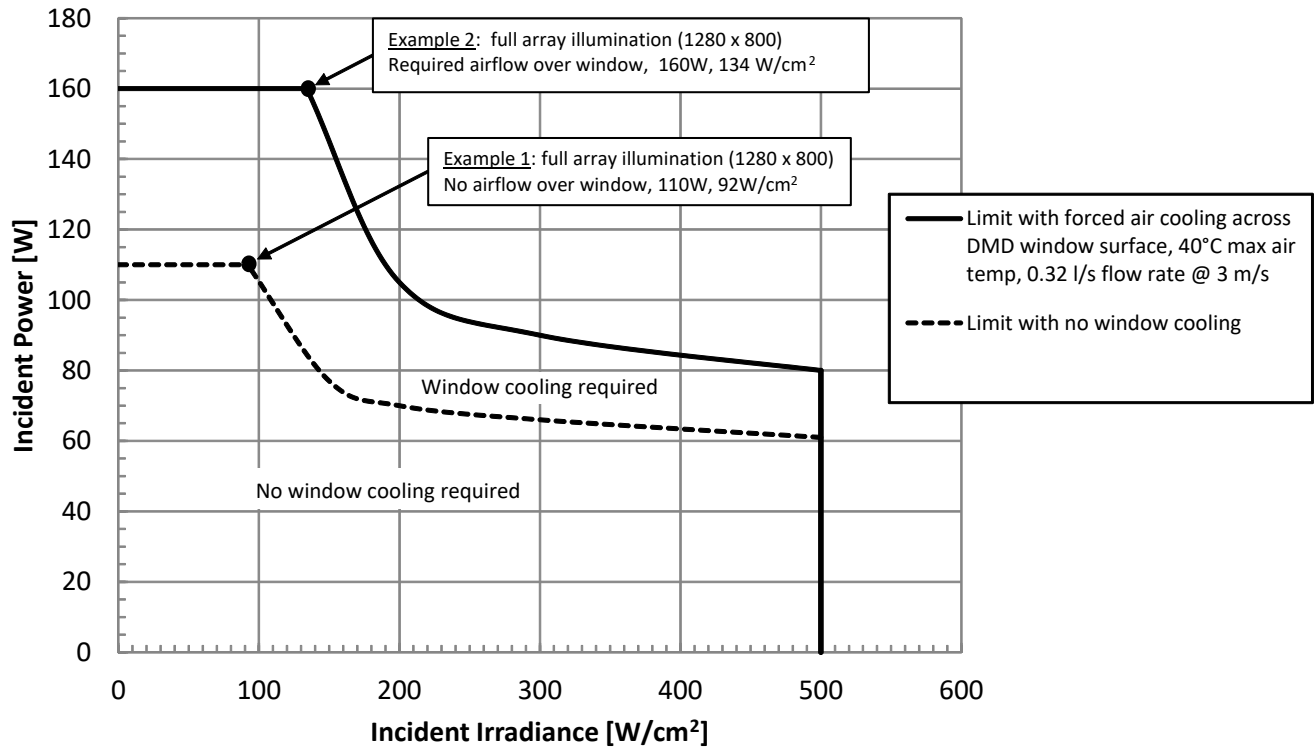

Figure 1. Maximum Recommended Illumination Incident Power vs Incident Irradiance
(16) The average over time (including storage and operating) that the device is not in the 'elevated dew point temperature range'.
(17) Limit exposure to dew point temperatures in the elevated range during storage and operation to less than a total cumulative time of  $CT_{ELR}$ .
(18) See Figure 1 for allowable combinations of illumination power vs illumination power density. 160W total power is achievable only by full array illumination. 500 W/cm2 is only achievable through partial array illumination. Some combinations of illumination power and power density require cooling of the window with forced air as defined by Figure 1. Refer to the application note DLP® High Power Thermal Design Guide: Focus on High Power NIR Laser Illumination for additional details.